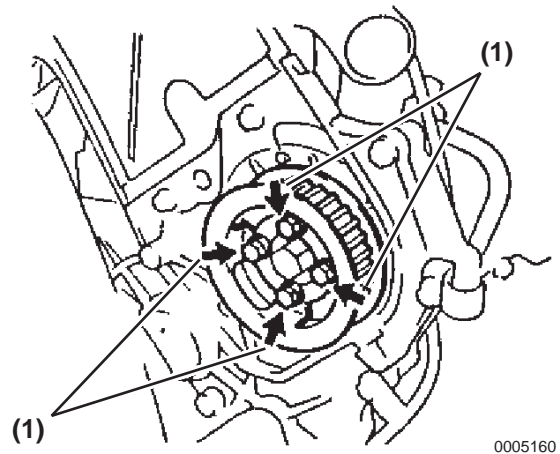

Figure 5-162
5. Remove the four bolts **(Figure 5-162, (1))**, No. 2 flange, timing pulley and No. 1 flange.